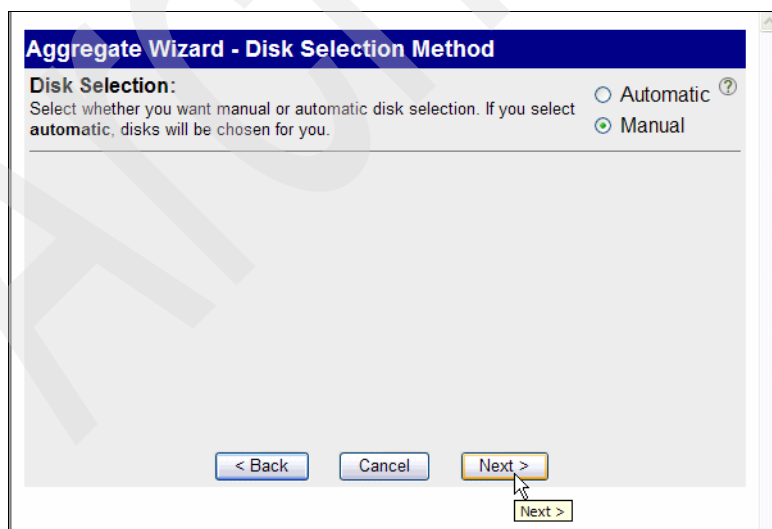

Figure 9-36 Aggregate Wizard: Disk Selection
5. As shown in Figure 9-36, choose automatic or manual disk selection. Automatic disk selection means the disks are selected for you automatically. Manual disk selection means that you can choose the disks yourself. We selected **Manual** disk selection so that we can choose the disks.